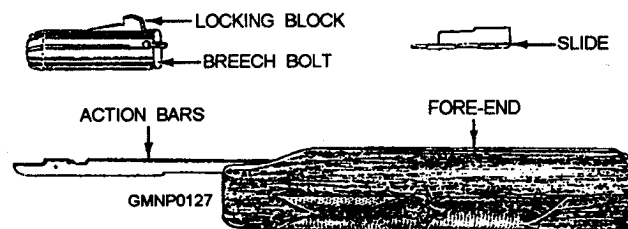

Figure 3-53.—M870 fore-end assembly.
**UNLOADING THE GUN.**— Push the safety to the **SAFE** position. Press in the action bar lock; pull the fore-end (fig. 3-53) slowly rearward until the front end of the shell from the barrel is even with the ejection port in the receiver. Lift the front of the shell outward and remove it from the ejection port. Continue pulling the fore-end back fully until the next shell releases from the magazine. Roll the gun sideways to allow the released shell to drop from the ejection port. Close the action by pushing forward on the fore-end. Continue this same method until the magazine and gun are empty.